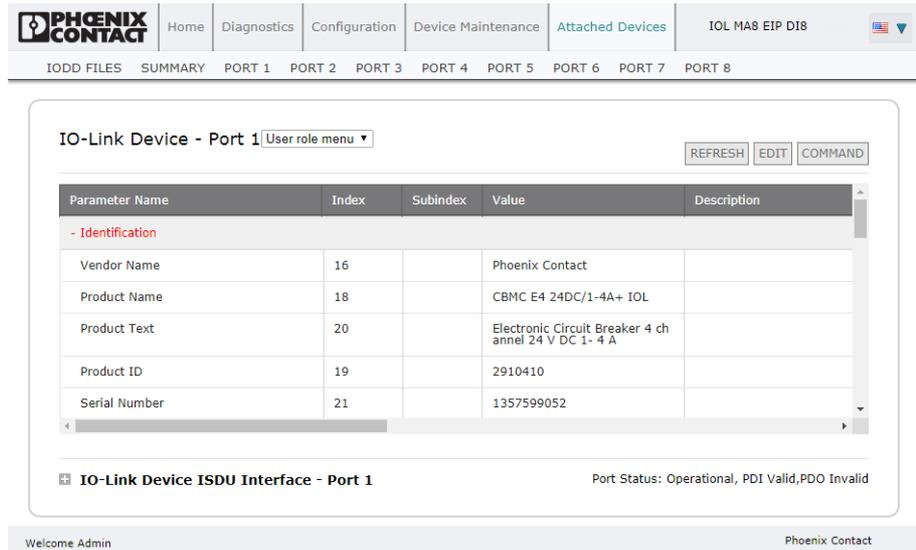

Figure 5-41 “IO-Link Device - Port *n*”
1. Click the "COMMAND" button (see Figure 5-41) and locate the "Restore Factory" button.